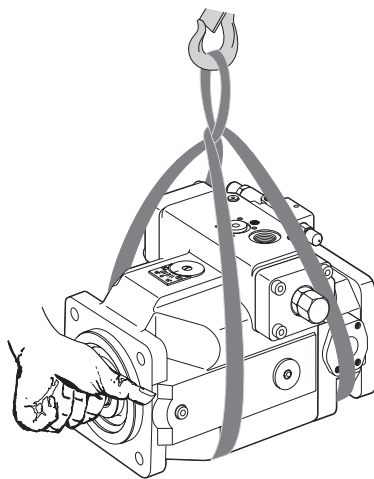

Fig. 17: Transport with lifting strap
- ▶ Place the lifting strap around the SY(H)DFED control system in such a way that it neither passes over the attached parts (e.g. valves) nor such that the SY(H)DFED control system is hung from attached parts (see Fig. 17).